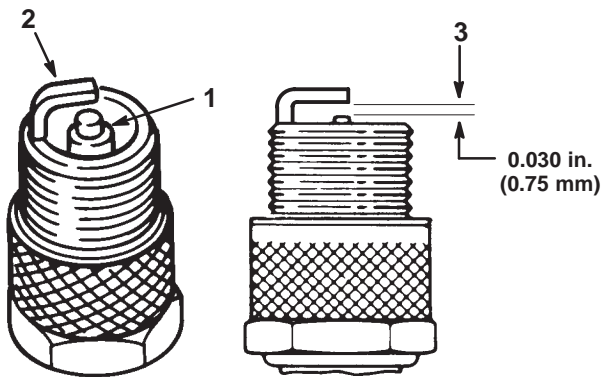

Figure 41
1. Look at the center of the spark plugs (Fig. 41). If you see light brown or gray on the insulator, the engine is operating properly. A black coating on the insulator usually means that the air cleaner is dirty.
2. Check the gap between the center and side electrodes (Fig. 41). Bend the side electrode (Fig. 41) if the gap is not correct.